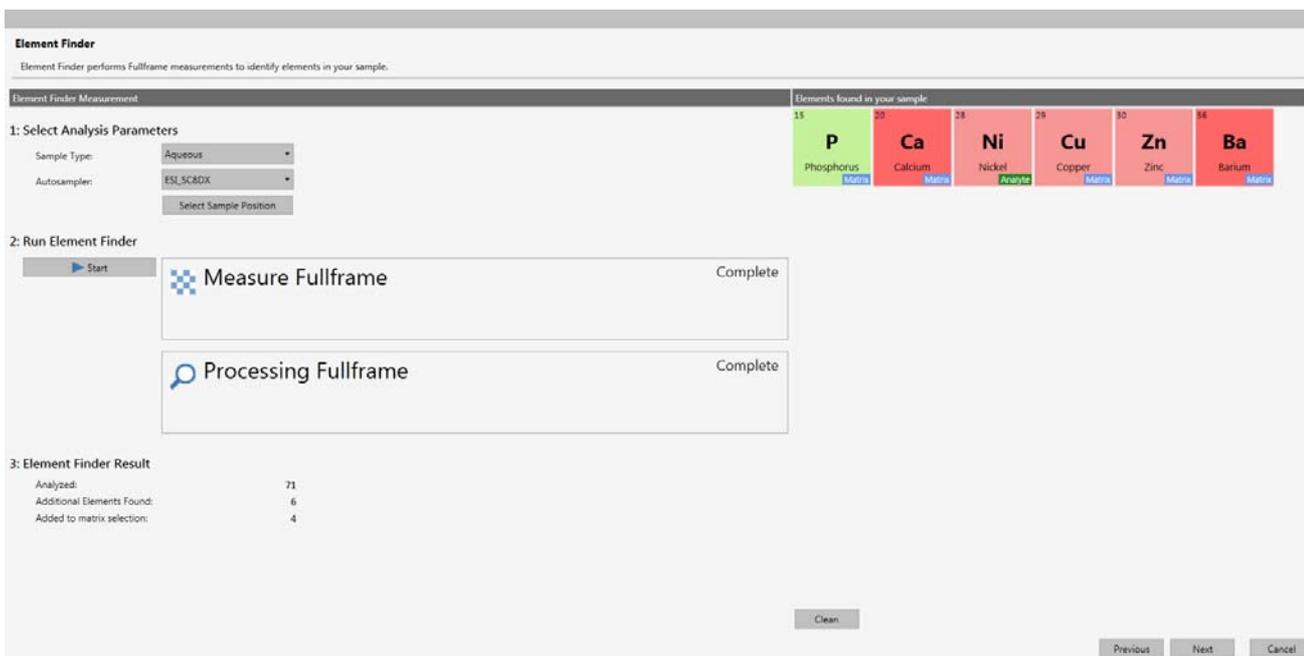

Figure 7-7. Element Finder view for a completed measurement
5. In the **Element Finder Result** area, the number of analyzed elements and number of additional elements found are shown, see Figure 7-7.